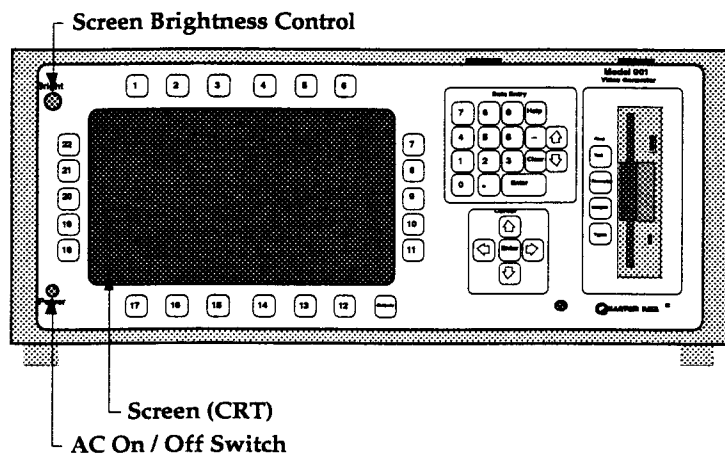

Figure 3-4. Power Switch and CRT Control Locations
2. Turn on the generator. The power switch is located on the front panel (Figure 3-4). It is a 2-position push-button. It's on when the button is in the *In* position. The cooling fan(s) starts as soon as power is on.)